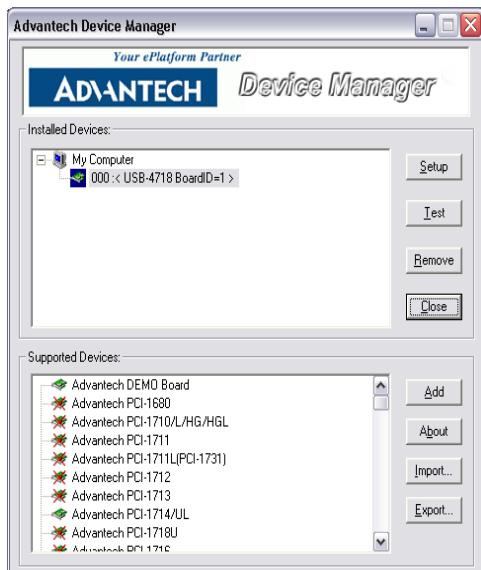

Figure 2.4: Device Manager Dialog Box
*If your module is properly installed, you should see the device name of your module listed on the Device Manager tab. If you see your device name listed, but marked with an exclamation sign “!” (Fig. 2-4), it means your module has not been correctly installed. In this case, remove the module from Device Manager by selecting its device name and press the **Remove** button. Then go through the driver installation process again.*